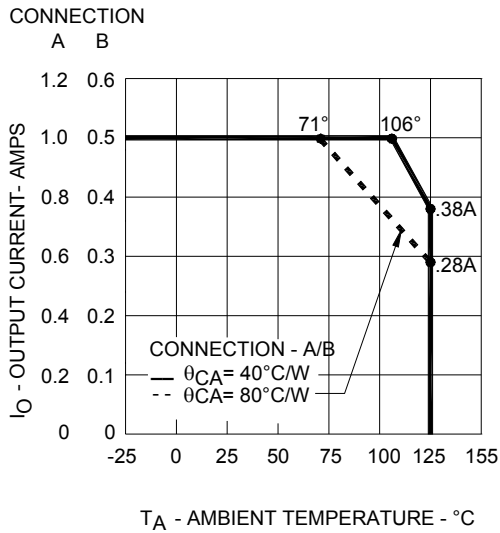

Figure 3. Maximum Average Output Current Rating vs. Ambient Temperature.
Average Output Current, derated per Figure 3
3. For rating, see Figure 5. The output power P_D rating curve is obtained when the part is handling the maximum average output current I_O as shown in Figure 3.